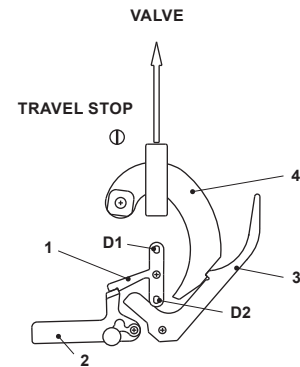

Figure 14. Mechanism Details
OPERATION (BM) (FIGURE 14)
- Manual release of slam shut (Figure 14)
- Manually press on the releasing stem pin D1 or D2 (Figure 14, key 1) parallel to the BMS axe
- Disassemble the mechanism box (BM) from the connector by unlocking the yoke